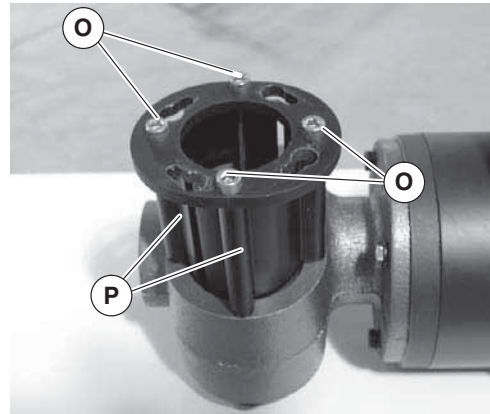

Figure 10
3. Remove the four (4) coupling spacer screws (Figure 10, item O) and remove the coupling guards (P).
- Install coupling spacer (Figure 10, item P) to gearmotor (S) and tighten screws (O) to 110 in-lb (12 N-m).